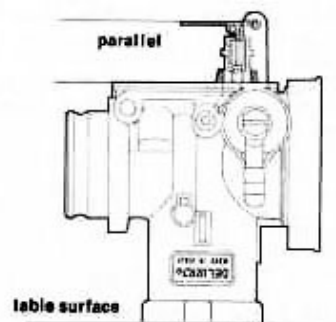

fig. 14
- for the floats with independent parts, hold the carburettor upside down (**fig. 14**) and check that the float arm is parallel to the carburettor face.